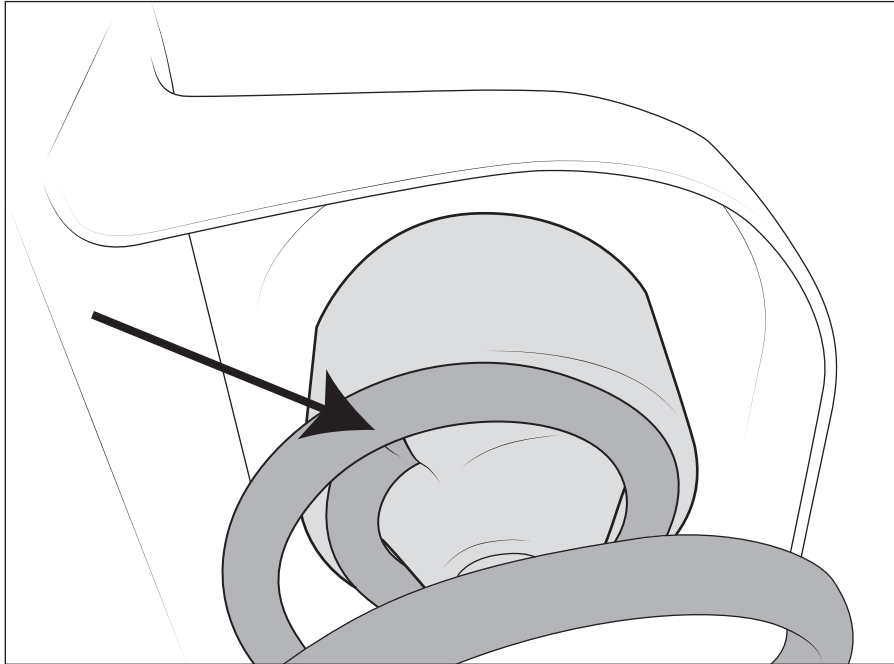

Figure 5
8. Reinstall the spring with the AEV Spring Spacer (inserting molded pin on top of the spacer into the hole in the frame). Be sure the spring is properly seated into the notch on the AEV spacer (fig. 5). Raise the axle to keep in place.